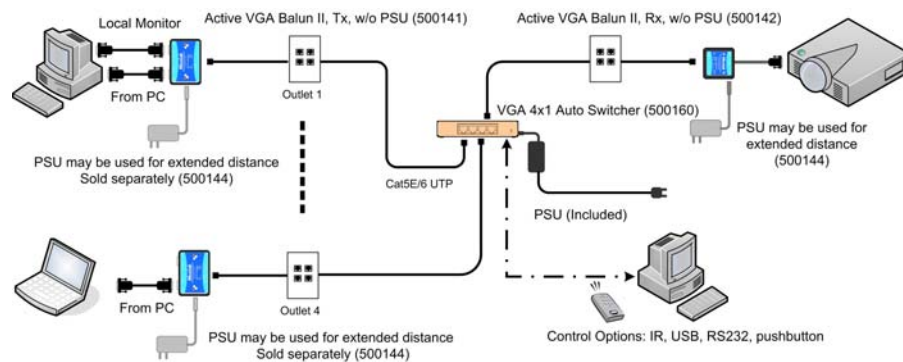

Figure 4: Typical Configuration
12. Figure 4 shows a typical configuration.